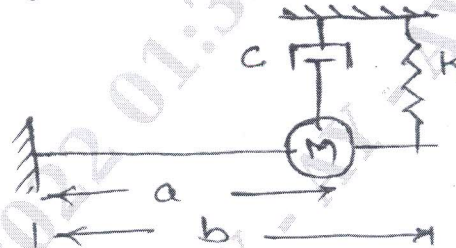

Fig.Q3(b)
- b. Determine suitable expression for equation of motion of the damped vibrating system as shown in Fig.Q3(b). Find the critical damping coefficient, when $a = 0.10$ m, $b = 0.13$ m, $k = 4900$ N/m and $M = 1.5$ kg.